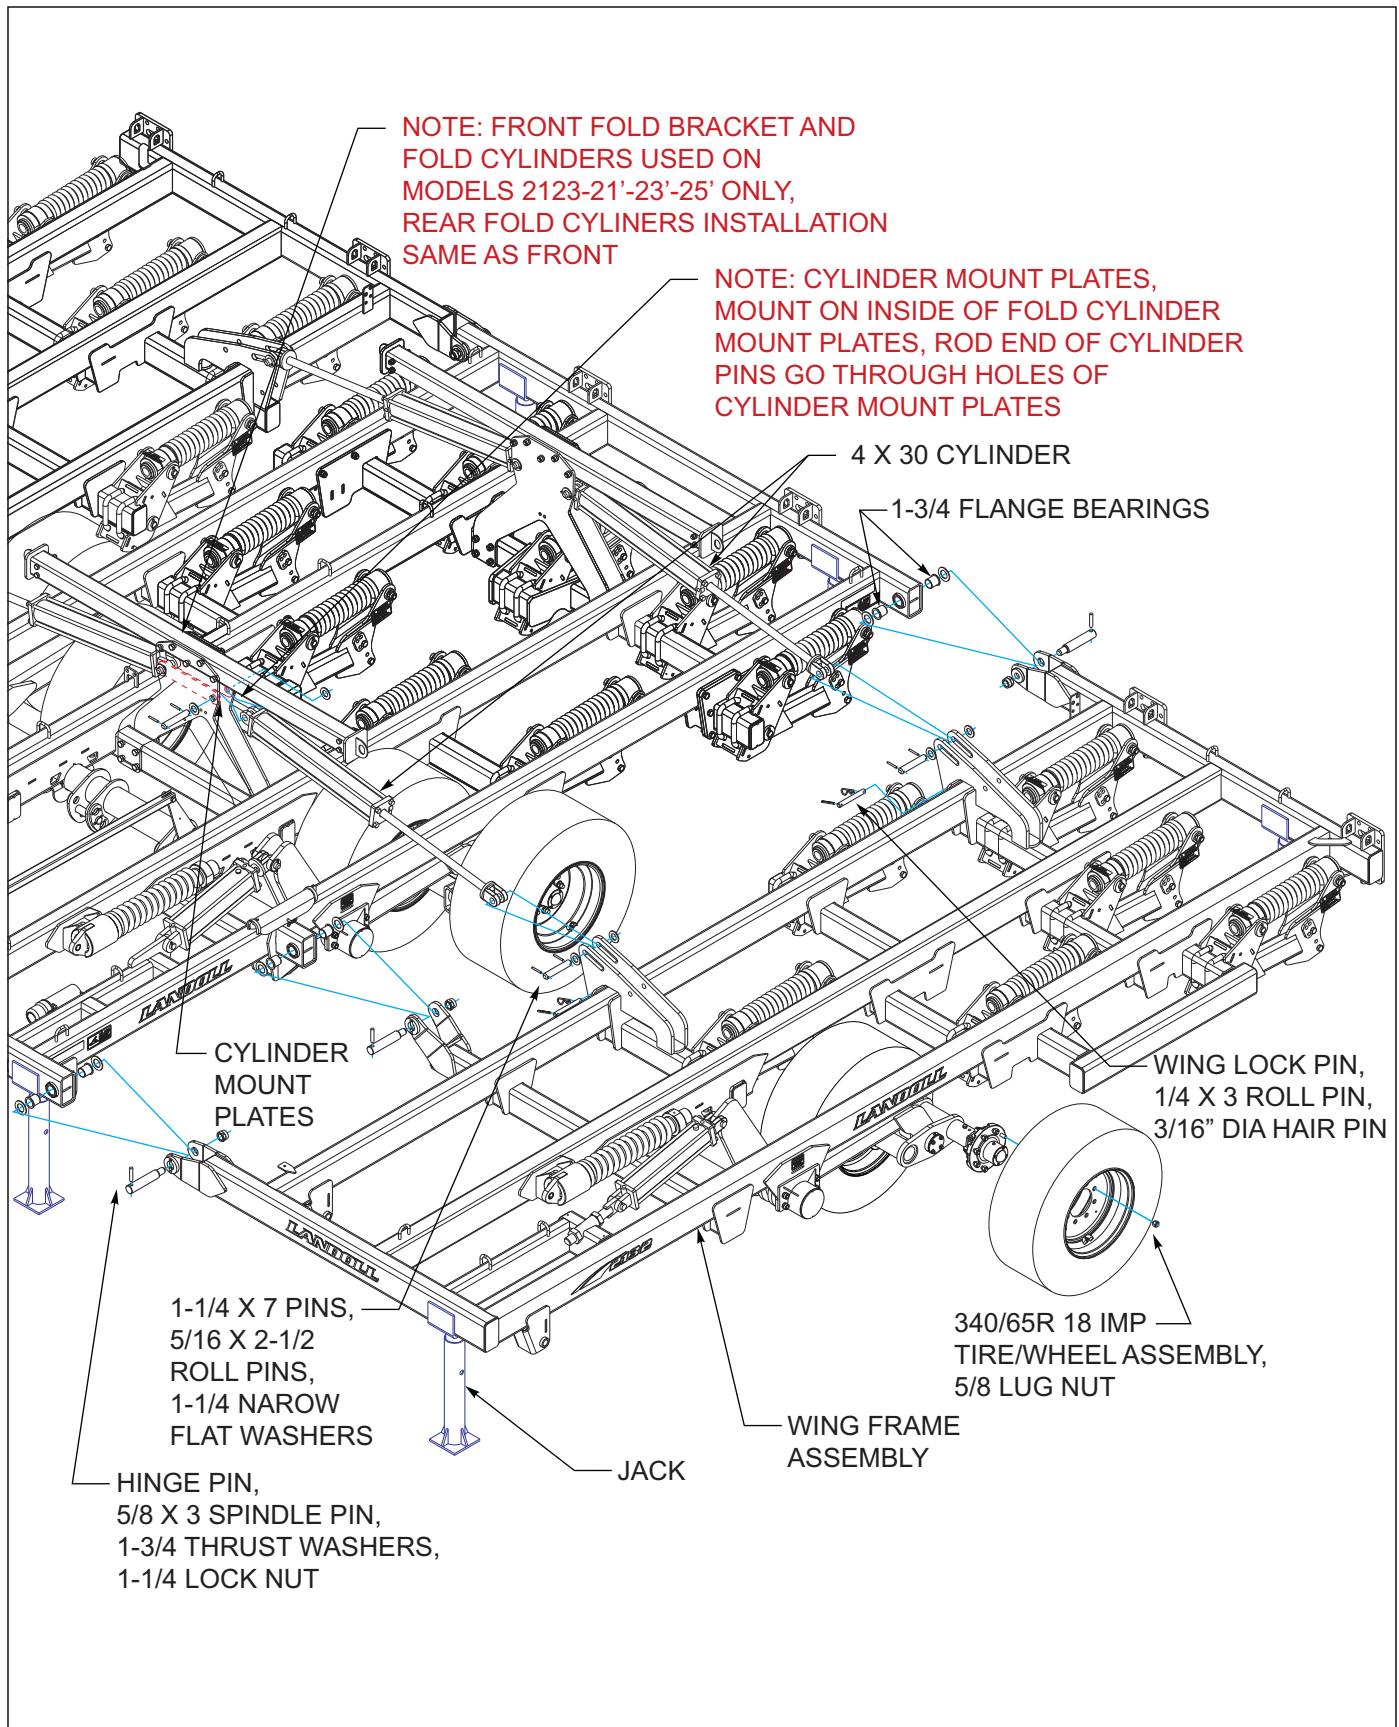

Figure 3-5: Wing Frame Installation
*Be sure all 1-3/4 flange bearings are installed in both front and rear of each center frame hinge points *See Figures 3-5*.*
3. Attach right and left wing frame assemblies to the center frame assembly using hinge pins, 5/8 x 3 spindle pin, 1-1/2 thrust washers, and 1-8 hex lock nuts *See Figure 3-5*.